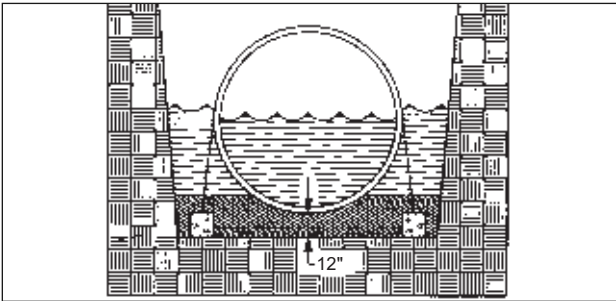

FIGURE 9-3
9.3.1.3. During Point 9.2.3. of the dry-hole installation, when setting and leveling the tank, partially ballast the tank until it settles firmly on the prepared bed. The ballast level in the tank must never exceed the water level in the hole by more than 1 foot until the backfill reaches the top of the tank. (See FIGURE 9-3.)